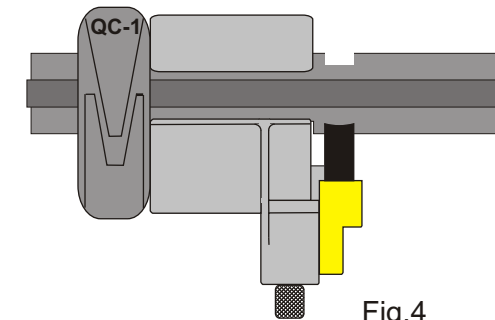

Fig.4
4. To start the channel cut, exert thumb pressure downward on the blade knob to engage the blade into the insulation, and begin turning the tool. As the tool rotates, the blade travels to the proper depth for this portion of the channel cut. When the blade knob has returned to its starting point, the initial channel cut is complete. It removes approximately 1/2 of the insulation thickness. (Fig.4)